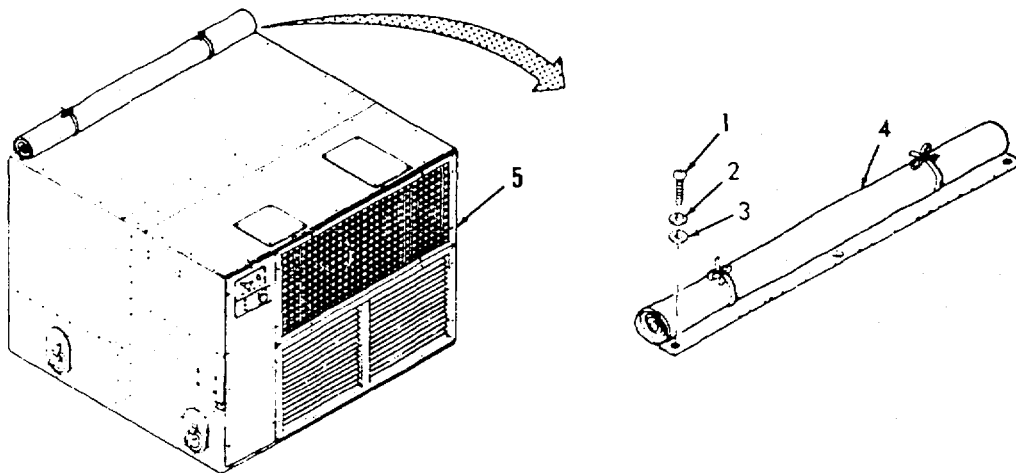

Figure 3-3. Fabric Cover Removal.
e. Mount the control panel assembly (11) in the desired location by tightening screw (12) through the center of the control panel assembly and into a 1/4-20 tapped mounting hole prepared at the new remote mounting location. Care should be taken to locate the control panel assembly and sensing bulb where there will be an accurate temperature indication.
f. Fabricate an interconnecting cable/harness of the required length to connect J6 to P6 with two lock washers (10), wire (9), two flat washers (8), and two nuts (7) on the back of the control panel assembly (11) and install this new cable assembly in accordance with local installation policies. (Refer to Appendix F for interconnecting harness fabrication instructions.)
g. Install access panel (5), eleven washers (4), and eleven screws (3).
h. Install front cover (2) and fourteen screws (1).
**3-10. INSTALLATIONS THAT REQUIRE REMOVAL OF FABRIC COVER.** Some installations require removal of the condenser side fabric cover. This generally applies only when air conditioner is positioned inside with condenser and fresh air openings ducted to the outside. (Refer to Figure 3-3).
- a. Remove three screws (1), three flat washers (2), and three lock washers (3).
- b. Carefully remove the fabric cover (4) from unit (5). Store the cover in a safe place for future use.
- c. Reinstall three lock washers (3), three flat washers (2), and three screws (1) into unit (5).